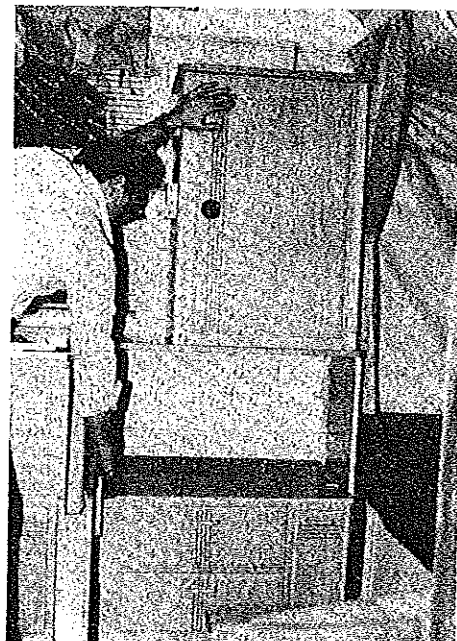

FIGURE 18
21. Using your free hand, turn the locking latches 90° to secure the cabinet in place. See Figure 18.